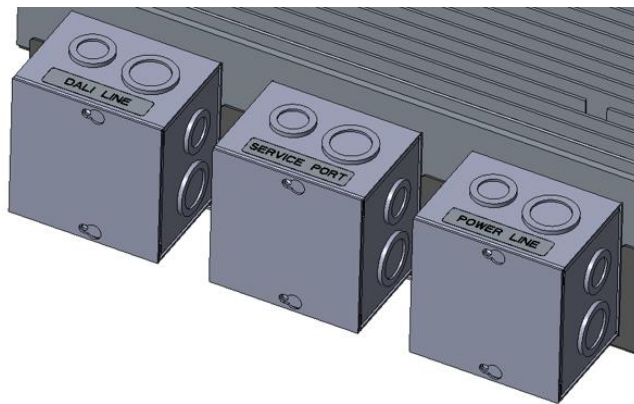

Fig. 47 Rear of the projector 74-00062-01/74-00063-01
- Open the lid of the junction box with the “POWER LINE” label (Figure 47).
- Repeat these operations on the junction box with the “DALI LINE” label for the DALI connections (Figure 47).